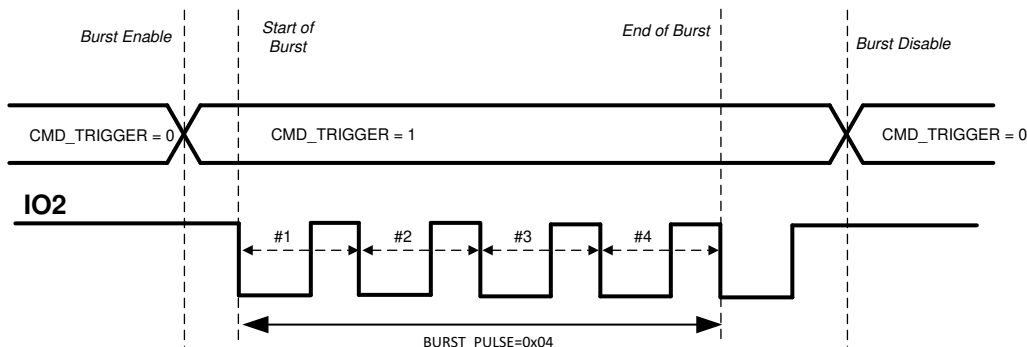

图 15. IO\_MODE 0 Description
- **IO\_MODE = 0:** In this mode, the external clock for the transducer is applied at the IO2 pin and the burst mode is enabled by setting the CMD\\_TRIGGER in the TOF\\_CONFIG register through SPI, as shown in 图 15. The device then expects a clock at IO2 pin to generate pulses on the OUTA/OUTB pins. The start of burst happens from the first falling edge of IO2. The number of pulses are counted by counting falling edge to next falling edge transitions on IO2 once the start of burst is triggered. The end of burst sequence is signaled when the number of pulses defined in BURST\\_PULSE are sent, or when the CMD\\_TRIGGER = 0 is set through SPI, whichever occurs earlier. TI recommends that IO2 is held high before burst enable to count the number of pulses correctly. After the start of burst, the state of OUTA and OUTB pins are determined by IO1 and IO2 pins as shown in 表 23. A transition of CMD\\_TRIGGER from high to low to high again is required to